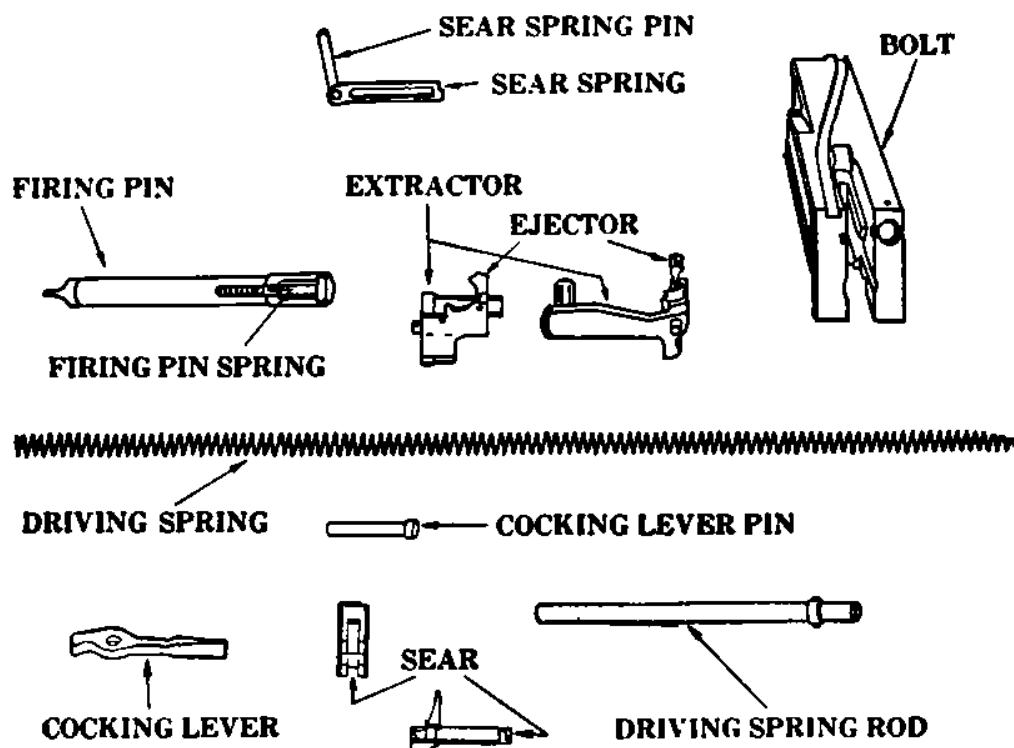

FIGURE 5.—Bolt group.
■ 12. DETAILED DISASSEMBLING OF BOLT.—*a.* Turn the extractor up and remove it to the left (fig. 5).